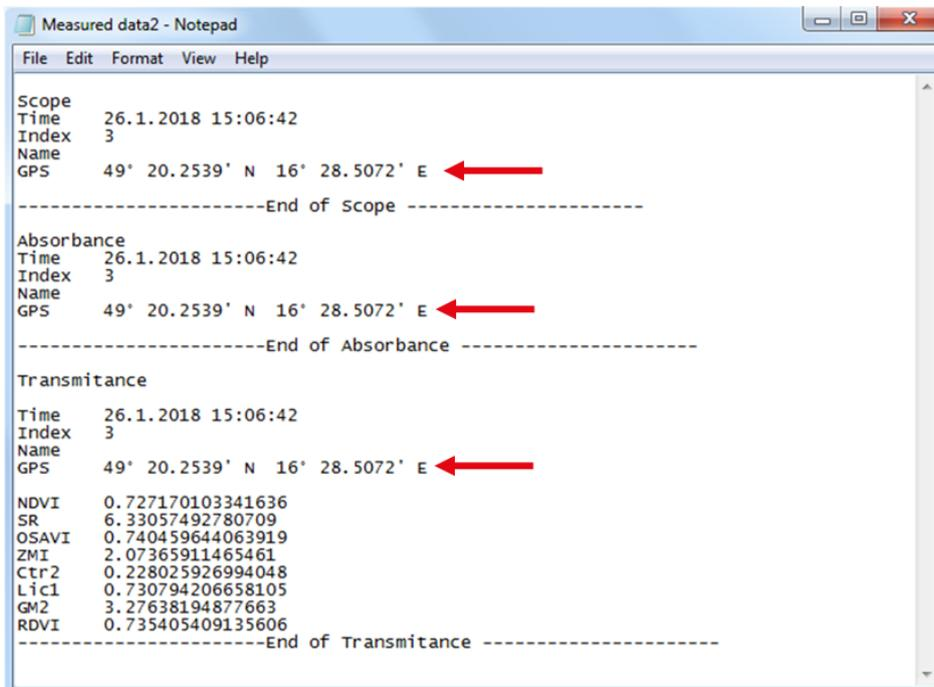

Fig. 40 Data with GPS coordinates.
2. Connect the PolyPen to the computer and open the SpectraPen software to proceed with download of the measured data. Data measured with activated GPS module are downloaded with GPS coordinates (Fig. 40).